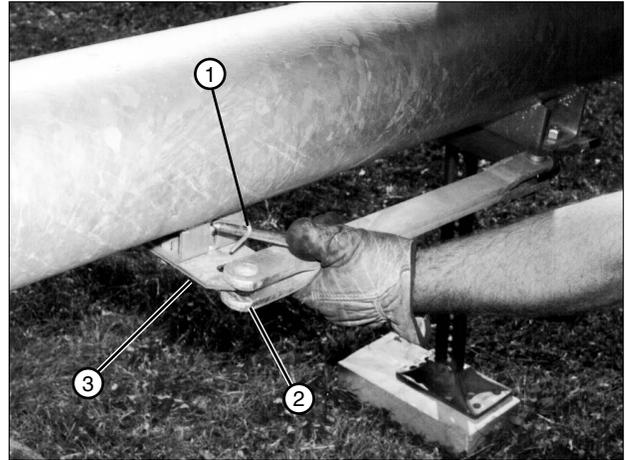

Figure 35-1 1. Carrier Spring 2. Tow Link Bar 3. Tow Link Carrier
8. Lift the carrier spring and release the tow link bar from the tow link carrier. See Figure 35-1.